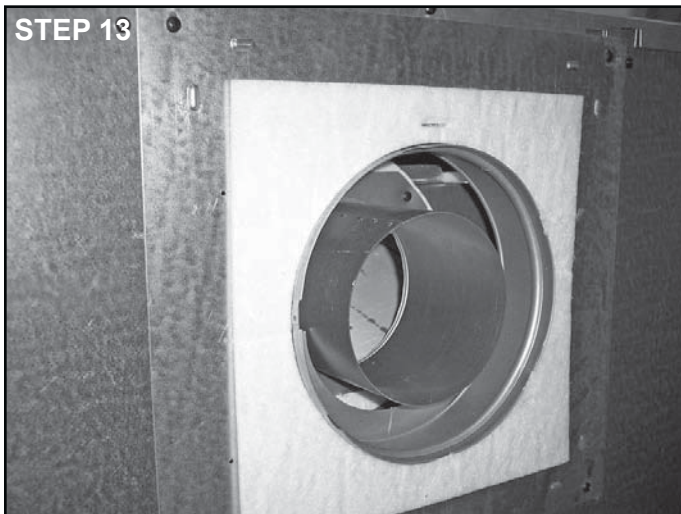

Figure 9.16 Place Gasket over the Cover Plate
- Place the gasket with the slot (removed in Step 2) around the outer collar. See Figure 9.16.